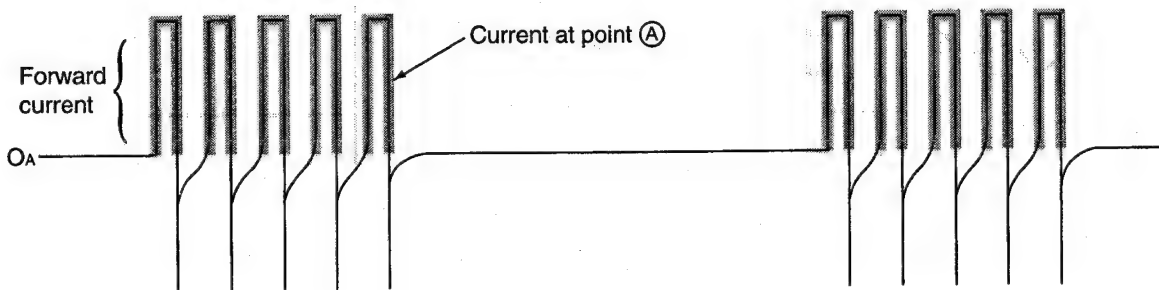
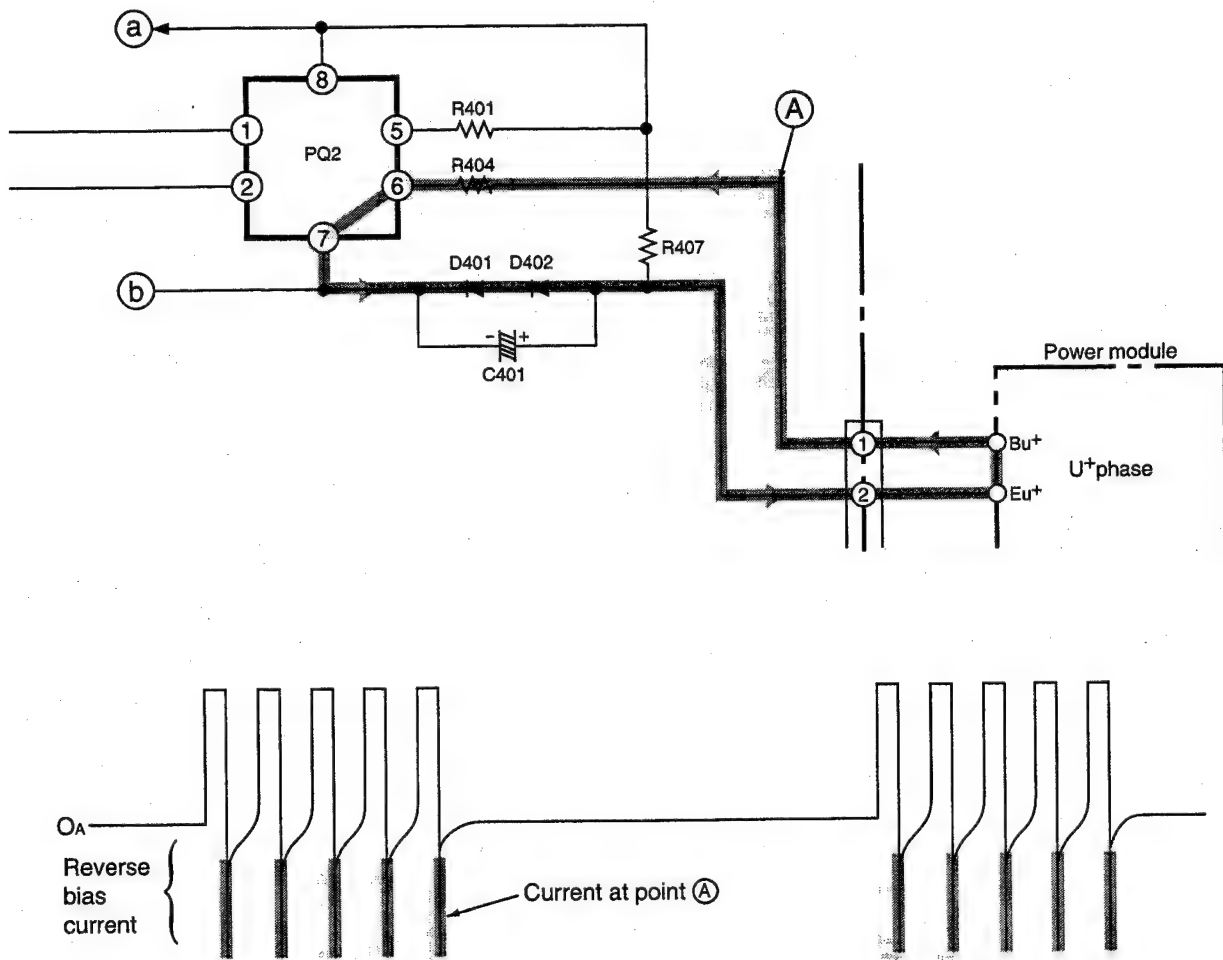

Fig. 7-2 Forward Current Waveform at Point A
Fig. 7-3 Waveform of Transistor Base Current (Reverse Current at Point A)
- When pin ②③ of the micro computer goes "HI" → "LO", a photocoupler between PQ2 pins ① and ② turns on and current flows to terminal A → R401 → PQ2 → R404 → power module's Bu+ terminals → Eu+ terminals → D402 → D401 → terminal B and drives the upper arm transistors. (Fig.7-2)
- As described in the rotor magnetic pole position detecting circuit, the upper arm drive circuit supplies current to the bases of the transistors on the power module's positive ⊕ side which turn on or off according to the position detection signals. The signals according to the position detection signals are output from pins ②③, ②④ and ②⑤ of the micro computer and are input to pins ② of photocouplers PQ2 - PQ4.
- When pin ⑳ of the micro computer then goes "Lo"  $\rightarrow$  "Hi", a photocoupler between PQ2 pins ① and ② turns off and the reverse bias current flows to C401  $\rightarrow$  power module's Eu+ terminals  $\rightarrow$  Bu+ terminals  $\rightarrow$  R404  $\rightarrow$  PQ2 to cut off the upper arm transistors. (Fig.7-3)